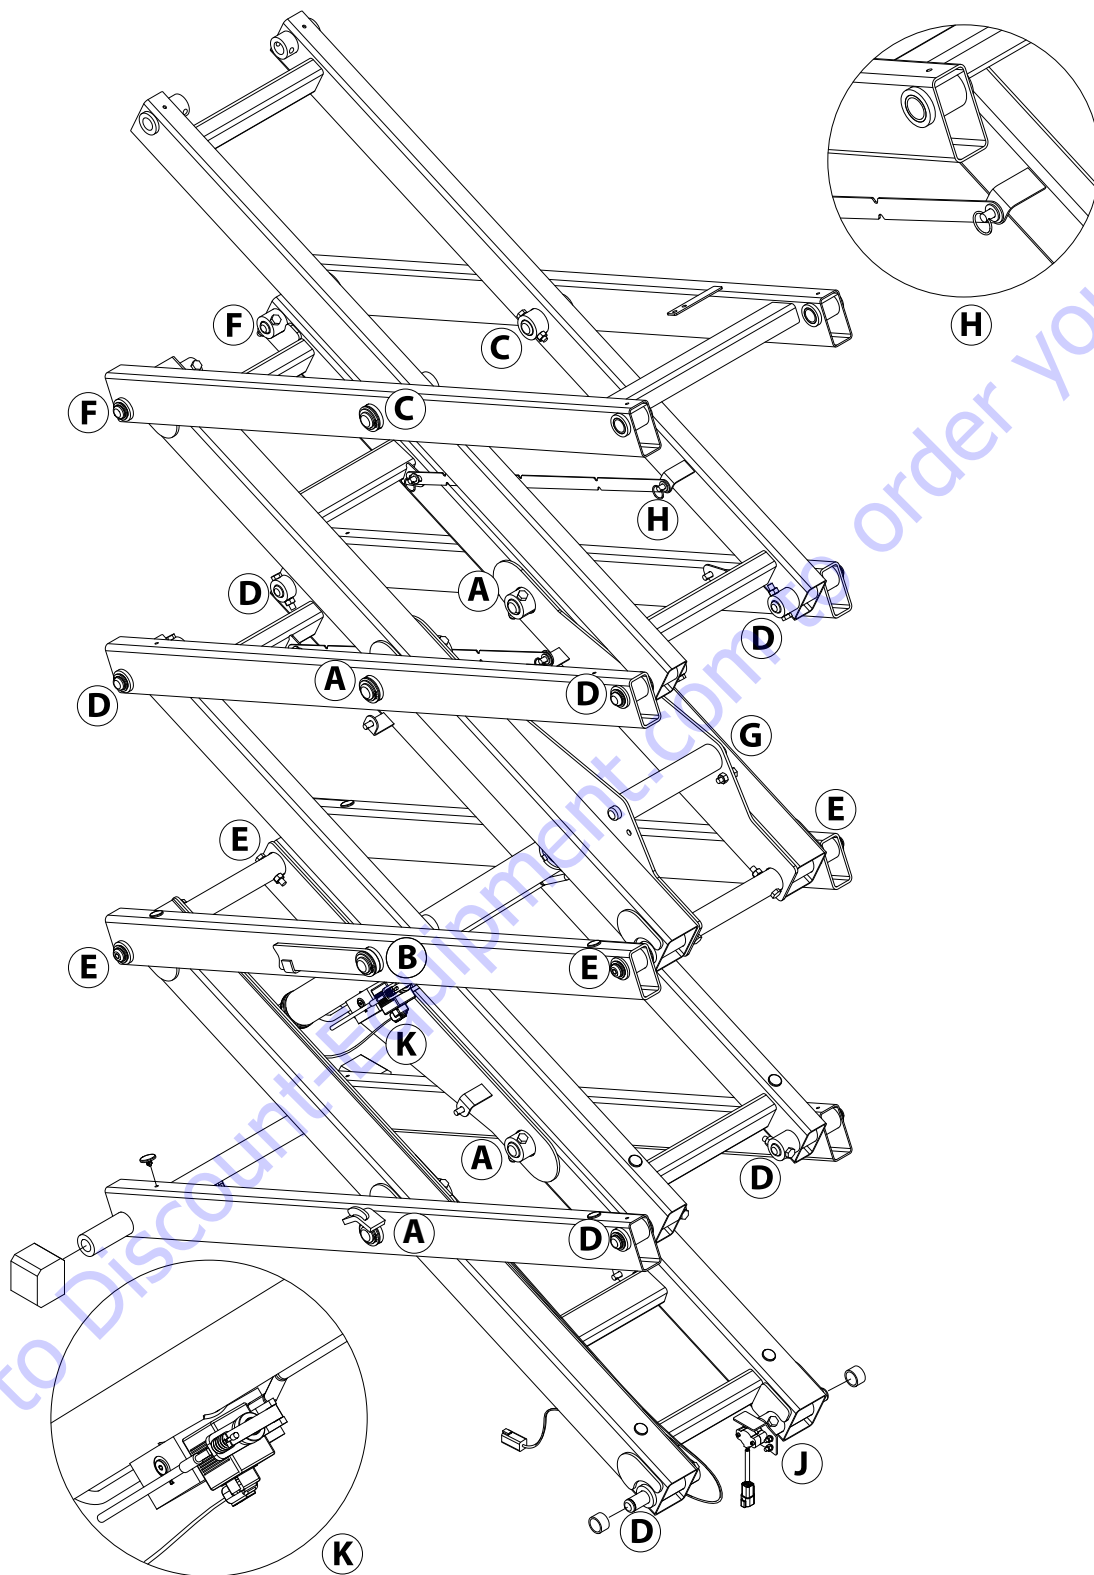

Figure 3-44. Scissor Arm Assembly (1932R)- Ref. Figure 3-45.
**NOTE:** For 1932R refer Figure 3-44. and Figure 3-45.